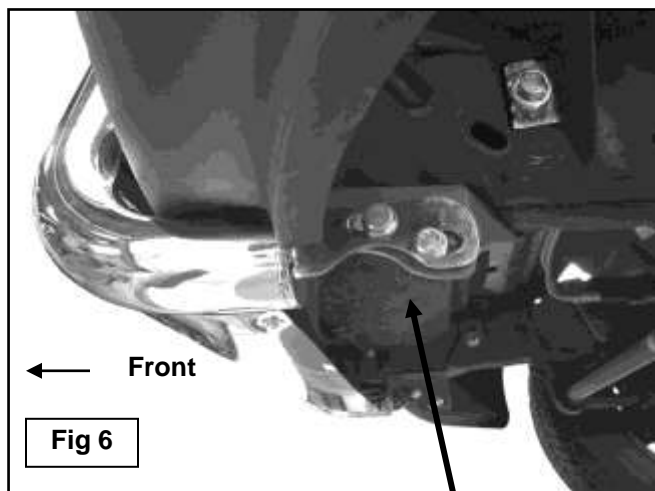

Fig 6
- a. Use the included (4) 12mm x 35mm Hex Bolts, (8) 12mm Flat Washers, (4) 12mm Lock Washers and (4) Hex Nuts, (**Figure 6**). Do not tighten hardware at this time.
- b. Check the above measurement before cutting by first, bolting the Bull Bar to the rear mounting location only on both Brackets with (1) 12mm x 35mm Hex Bolt, (2) 12mm Flat Washers, (1) 12mm Lock Washer and (1) Hex Nut inserted into each Bracket to use as a hinge, (**Figure 6**). Rotate the Bull Bar up to the bottom of the air dam. The center of the tube should match the vertical line drawn at 17-1/2" out from the center of the bumper cover.
- d. Once properly trimmed, reinstall the bumper cover and Bull Bar, (if removed), as previously described, (**Figure 6**).